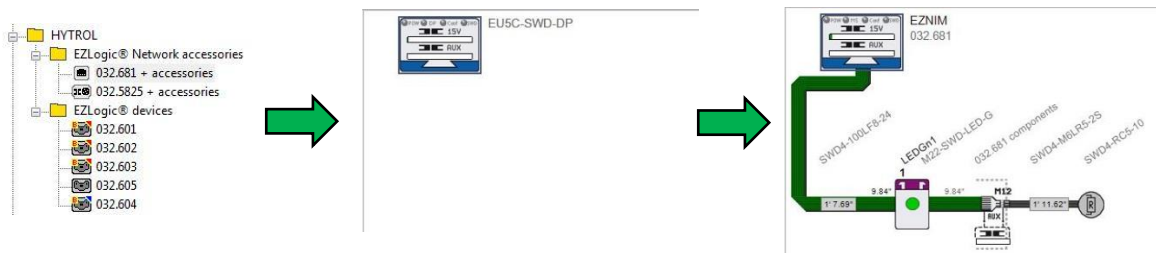

Figure 9: Drag and drop 032.681 over EU5C-SWD-DP BOX to replace it.
2. Create a new SWD Assist file; then on the project's tree look for the *HYTROL/EZLogic® Network accessories'* folder, select, drag and drop part number *032.681 + accessories*, over the EU5C-SWD-DP box at the component' screen side on the right. See figure 9.